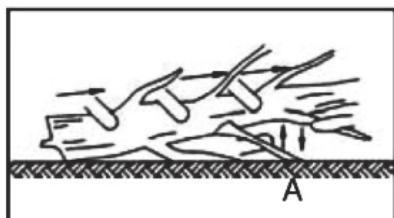

Fig.3
Limbing a tree is the process of removing the branches from a fallen tree. Do not remove supporting limbs (A) until after the log is bucked(cut) into lengths (Fig.3).Branches under tension should be cut from the bottom up to avoid binding the chain saw.